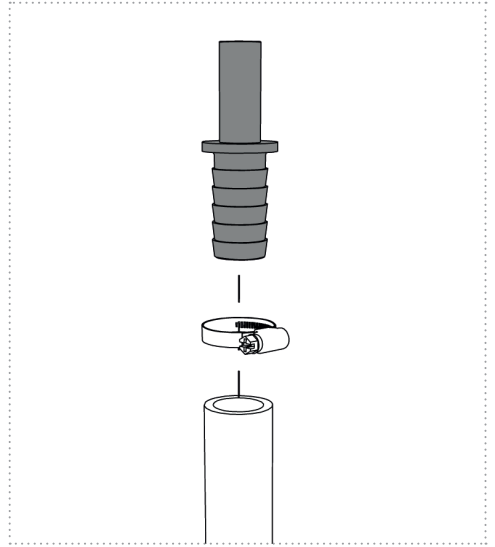
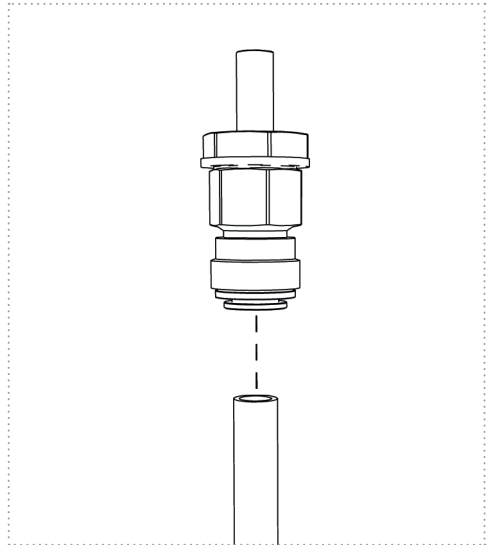

Figure 8
Figure 9b
2. Slide the hose coming from the pump onto the included matching tube to hose stem and fasten it with a hose clamp (Figures 8 and 9a).
Note: For using the „water connection adapter 12 or 15mm“ with plug-in system for e.g., UniQuick and Whale System (not included in scope of delivery), observe Figure 9b.
3. Slide the hose departing from the UV unit onto the included matching tube to hose stem and fasten it with a hose clamp (Figures 8 and 9a). Note: For using the „water connection adapter 12 or 15mm“ with plug-in system for e.g., UniQuick and Whale System (not included in scope of delivery), observe Figure 9b.